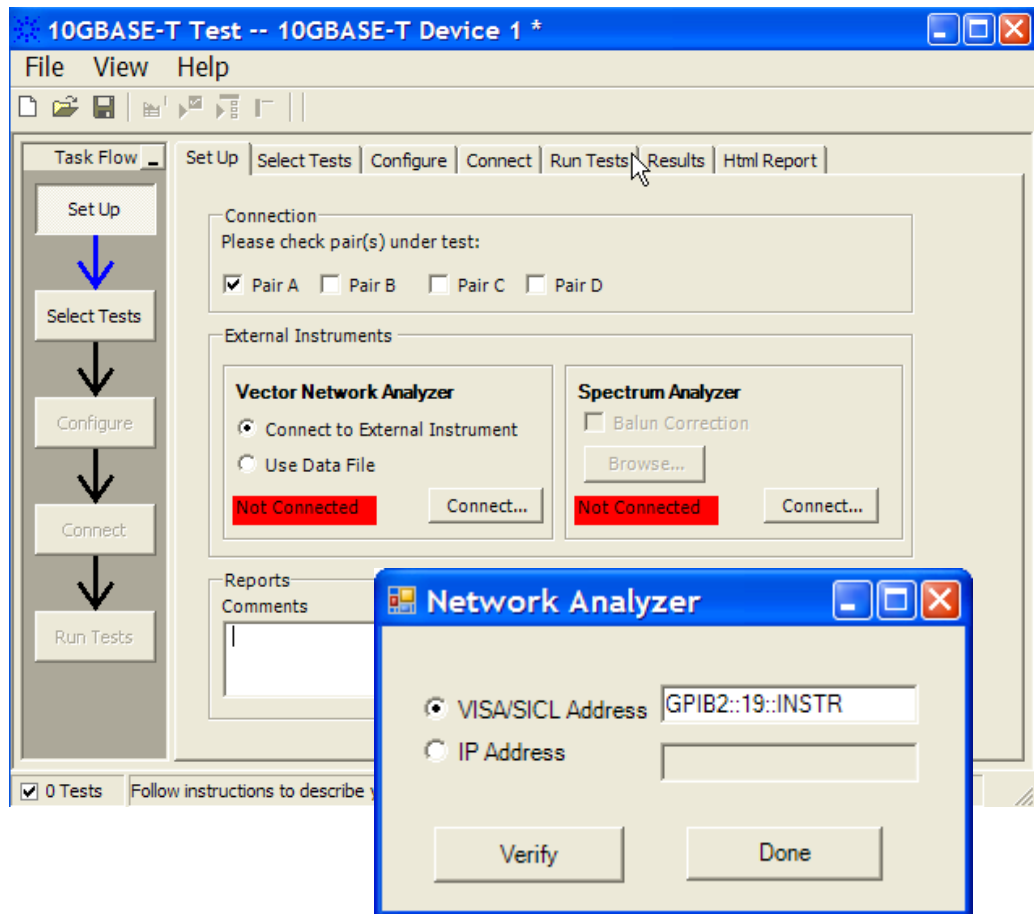

Figure 30 Setup page and vector network analyzer pop-up box
- 8 Ensure that the application detects the vector network analyzer connection to the oscilloscope. Else, click on the Connect... button in the Vector Network Analyzer External Instruments group. A pop-up box will appear where you can enter either the VISA/SICL address or the IP address. Enter the information and click the Verify button, followed by the Done button to close this box. The VISA/SICL address or the IP address can be obtained from the IO Control Connection Expert application, as shown in Figure 30.